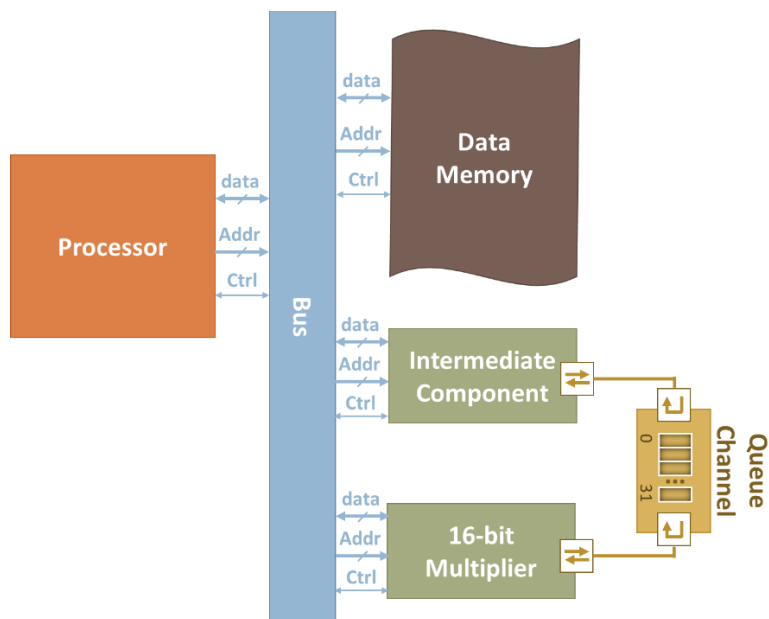

Figure 1 – An overall view of the system
The system shown in Figure 1 is being considered here. In this system, the processor passes vector-based data through a FIFO channel to the multiplier engine. The multiplication results will be available in a scalar-based format for the processor to pick up. The four following paragraphs discuss individual components of the system. The system functionality is explained in detail in the last paragraph.
starts the multiplication process for the data stored in the channel. When a multiplication result is ready, the processor collects the result by reading the output register of the multiplier (*dataOutReg* in Figure 1). The way the processor collects the result data is referred to as scalar-based format here. A pseudo-code of the program that is run on the processor is shown in Figure 3.
- A) Model all components of the system shown in Figure 1 in SystemC. You can use the codes provided in the lectures.